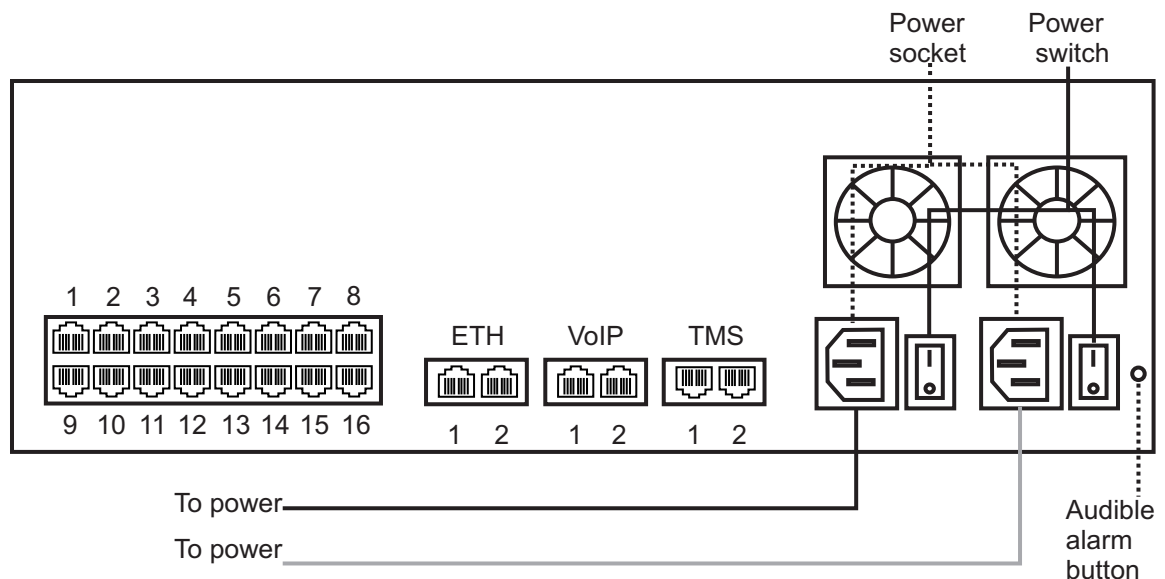

Figure 2.9 AC Power Connection
1. Connect one AC power cable between the AC connector of the TMG5800 and an AC supply. See figure 2.9 on page 19. If the TMG5800 features a second AC connector, connect an additional AC power cable between this connector and an AC power supply. If the TMG5800 features a secondary power supply and it is not connected to an AC power source, press the green button located at the rear of the unit to disable the audible alarm. See figure 2.9 on page 19.